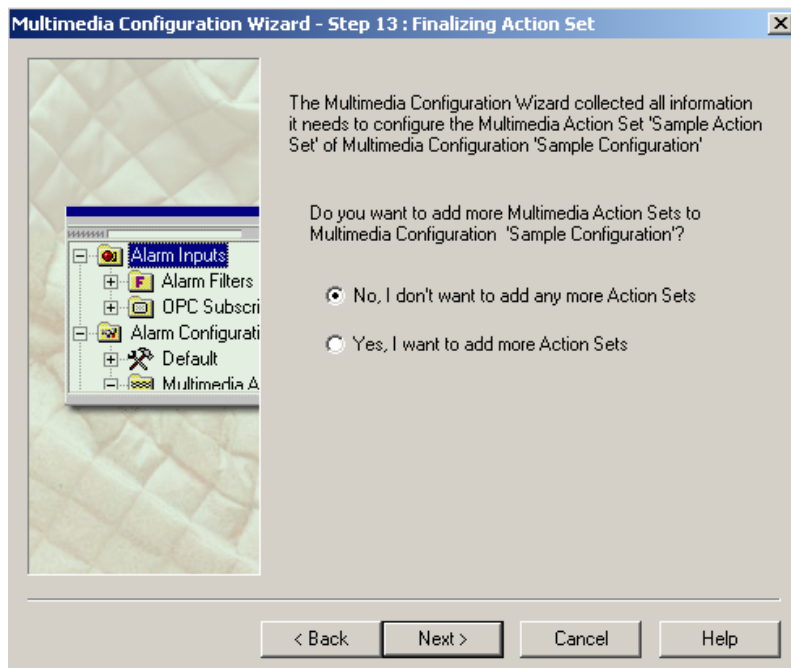

Figure 3.14. Step 13: Adding More Action Sets to the Configuration
13. The last step of the Wizard gives you the option of adding more action sets to be connected to your alarm OPC server, as shown in **Figure 3.14**. If you choose to add another action set, the Wizard will take you back to Step 4. Otherwise, the Wizard will notify you that it has been completed successfully.